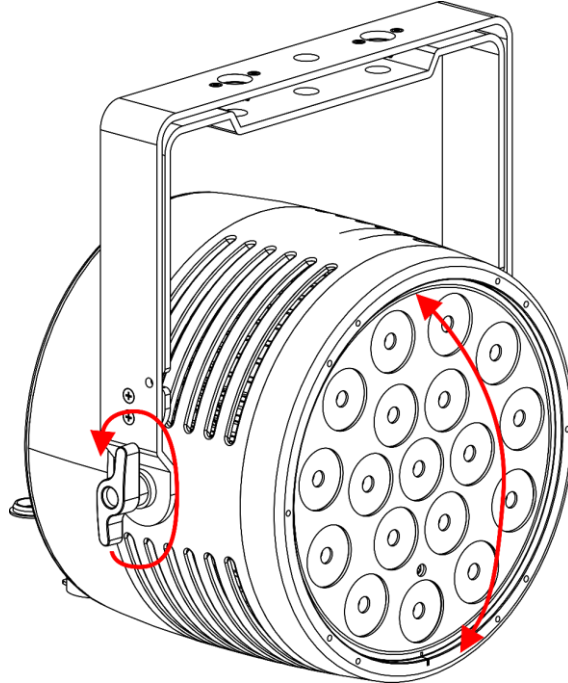

Fig. 07
- 01) Turn the **adjustment screws (01)** counterclockwise to release it.
- 02) Tilt the device at the desired angle (see Fig. 07).
- 03) Turn the **adjustment screws (01)** clockwise to tighten it. Make sure that the device cannot move freely after the **adjustment screws (01)** is tightened.